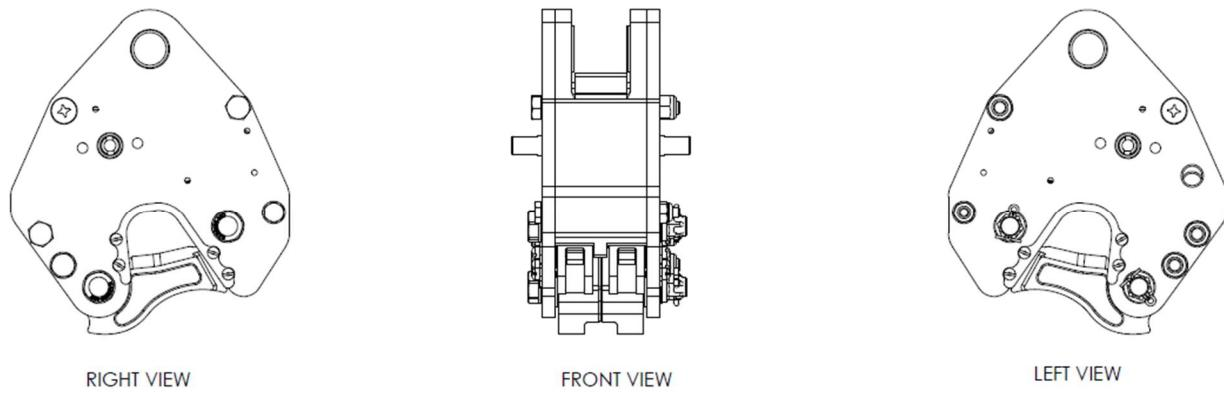

Figure 4.4: Model 350 ADEC™ Hook with Release Mechanisms (Externals) Removed.
- Continue to remove the release mechanism components until the hook is disassembled per Figure 4.4.